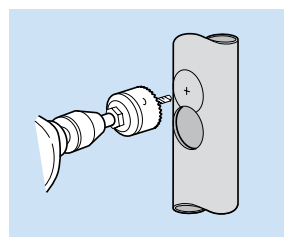

Fig. 51
- Drill two overlapping holes of correct size at 1 3/4" centres (Fig. 51).